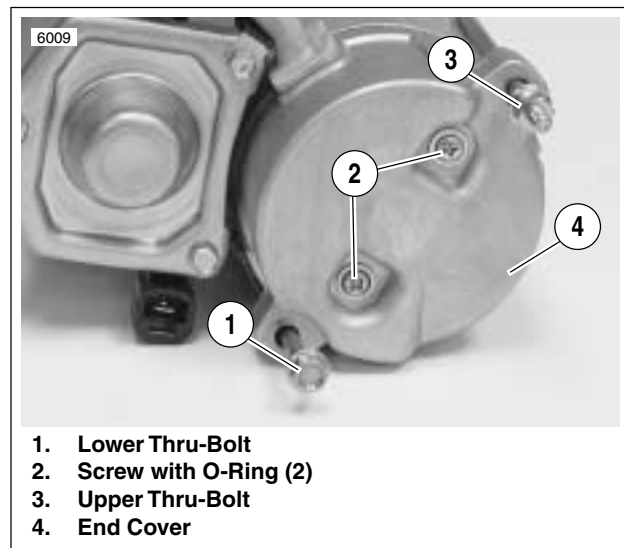
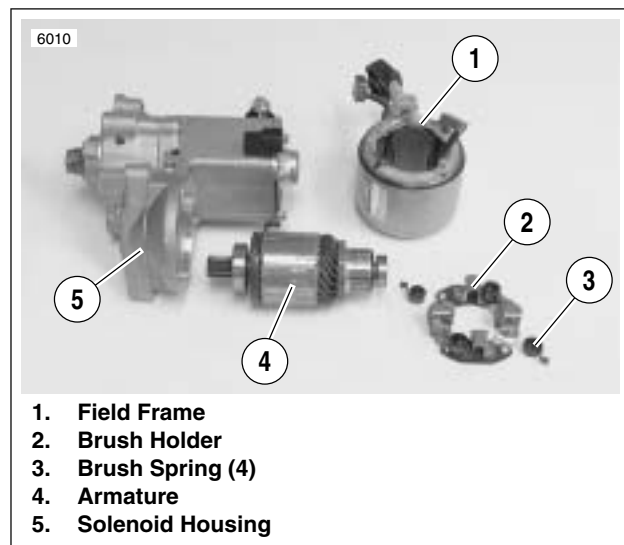

Figure 5-16. Removing the Thru-Bolts
Figure 5-17. Starter Components
2. See Figure 5-16. Remove both thru-bolts (1, 3).
3. Remove both end cover screws with O-rings (2) and end cover (4).
4. See Figure 5-17. Use a wire hook to pull upward on brush springs (3), and lift brushes out of holder (2). Remove brush holder.